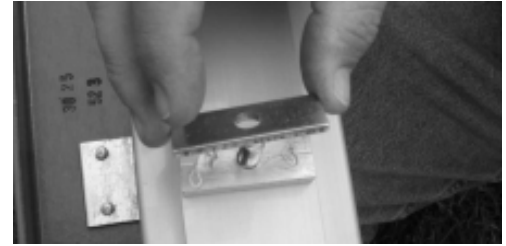

Figure 2-4
Special Note for Ladders which have a bracket on bottom of fly section (Example: Werner D1500 series): Check clearance of fly section (the upper, moveable section) at location of Leveler on extension ladder rail. If there is any interference, install thin rectangular aluminum spacer plates with metal adhesive (both included in kit), so they do not vibrate loose. These spacer plates will stand the Leveler further away from the rail to allow for fly section bracket clearance (see **Figure 2-4**, page 4).
5. Epoxy as many of the thin, rectangular **Aluminum Standoff Plates** (Enclosed) as necessary to assure a flush, level fit. Use a small drop on either side of the hole on plate. The epoxy is required to prevent the spacers from rotating. (see **Figure 2-4**, page 4). **ATTENTION** - *If your ladder has a long metal plate then spacer plates may only be needed at the 2 upper mounting bolts of each leveler.*